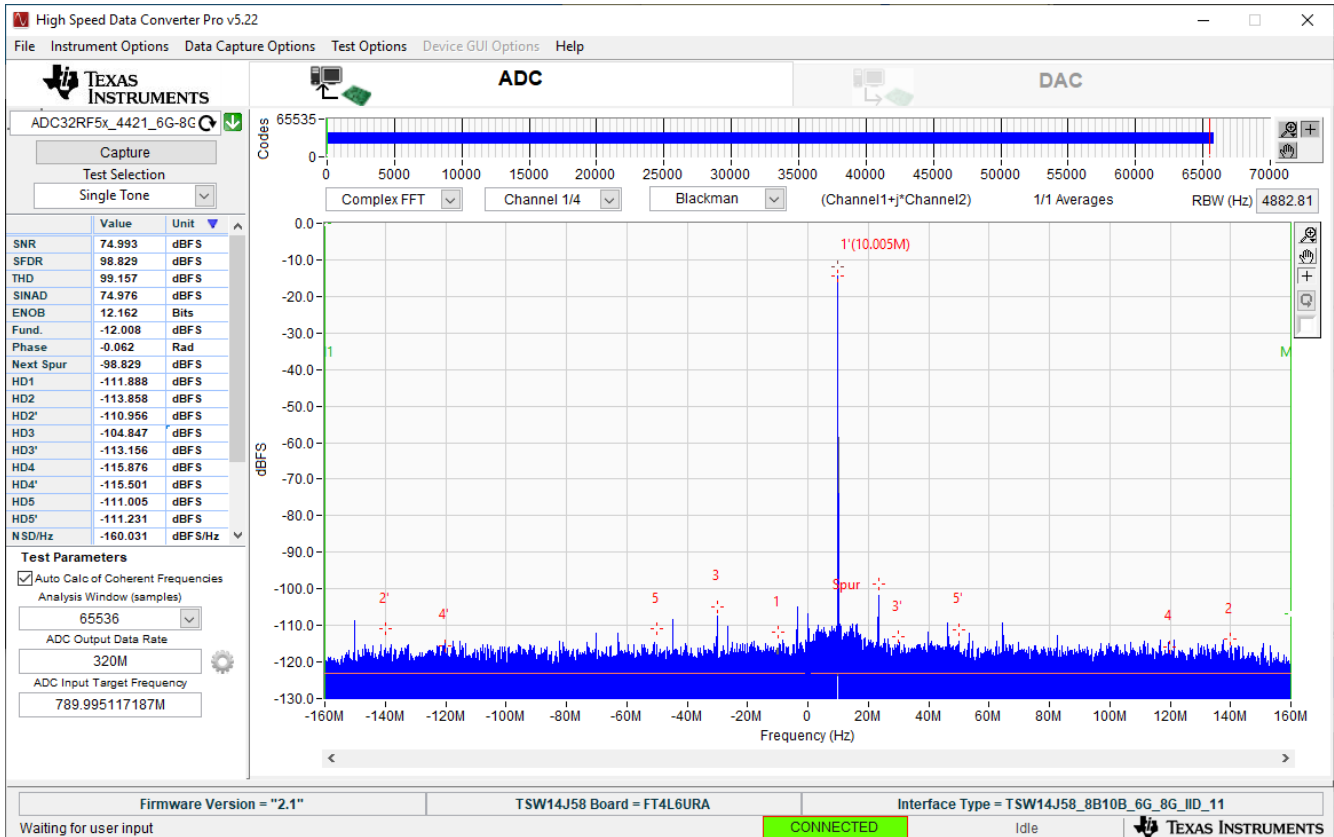

Figure 3-9. 789.995MHz Input, 8x Complex Decimation, 1x Averaging, Dither On
15. Press the *Capture* button and a screen similar to Figure 3-9 pops up.